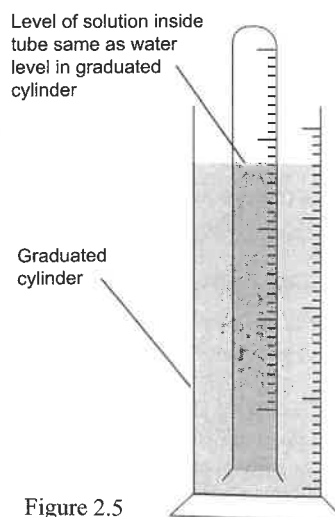

Figure 2.5
8. Cover the hole in the stopper with your finger and transfer the gas measuring tube to a 250 mL graduated cylinder which must be almost filled with tap water as shown in Figure 2.5. Adjust the position of the tube until the level of the acid solution inside the tube is the same as that of the water in the cylinder. Read the volume of hydrogen gas, taking care to observe the calibration marks on the tube. Record the volume to the nearest 0.1 mL.